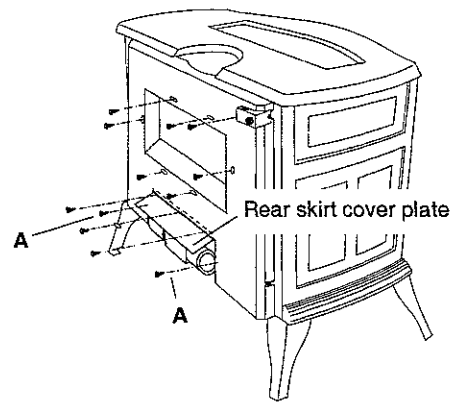

Fig. 13. Attach the rear skirt cover plate to the rear skirt.
8. Re-attach the rear skirt cover plate by fastening it to the rear skirt as shown in Fig. 13. The top edge of the cover plate goes inside the rear skirt. Re-install and tighten the six sheet metal screws around the draft hood opening; see 'A', Figure 10. Use two screws from the fan kit to fasten the rear skirt to the fan shield; see 'A', Fig. 13.